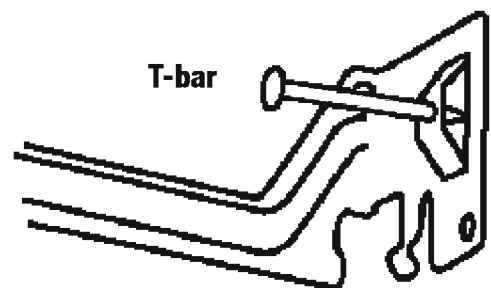

Fig. 5
4. Determine ceiling opening required by measuring the housing then locate center of proposed opening on ceiling tile and carefully cut out a 6-3/8 in. circular hole for the housing (Fig. 5).
Place ceiling tile in T-bar grid (Fig. 5).
Snap bar hanger on T-bars. Secure with screw if desired (sold separately) (Fig. 5).